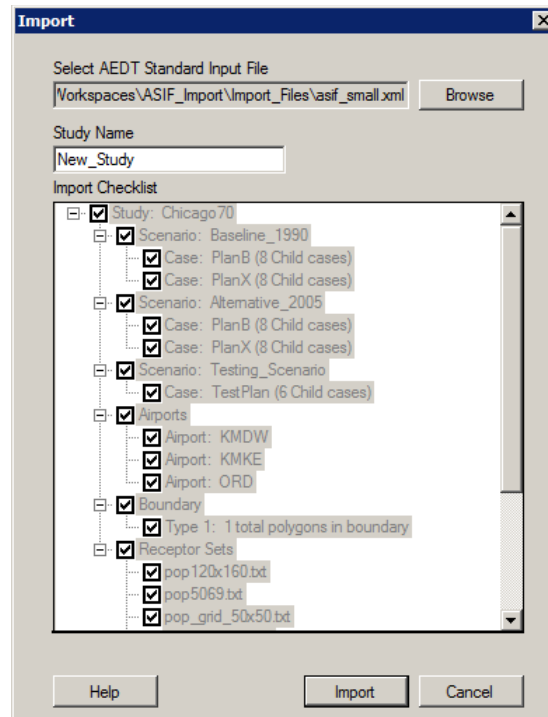

Figure 3-4 Import Dialog Box
1. Upon startup, select *Import Study* in the *Load Study* dialog box and click the *OK* button to open the *Import* dialog box (Figure 3-4). If the *Load Study* dialog is not open, select *File, Open Study* from the menu bar.